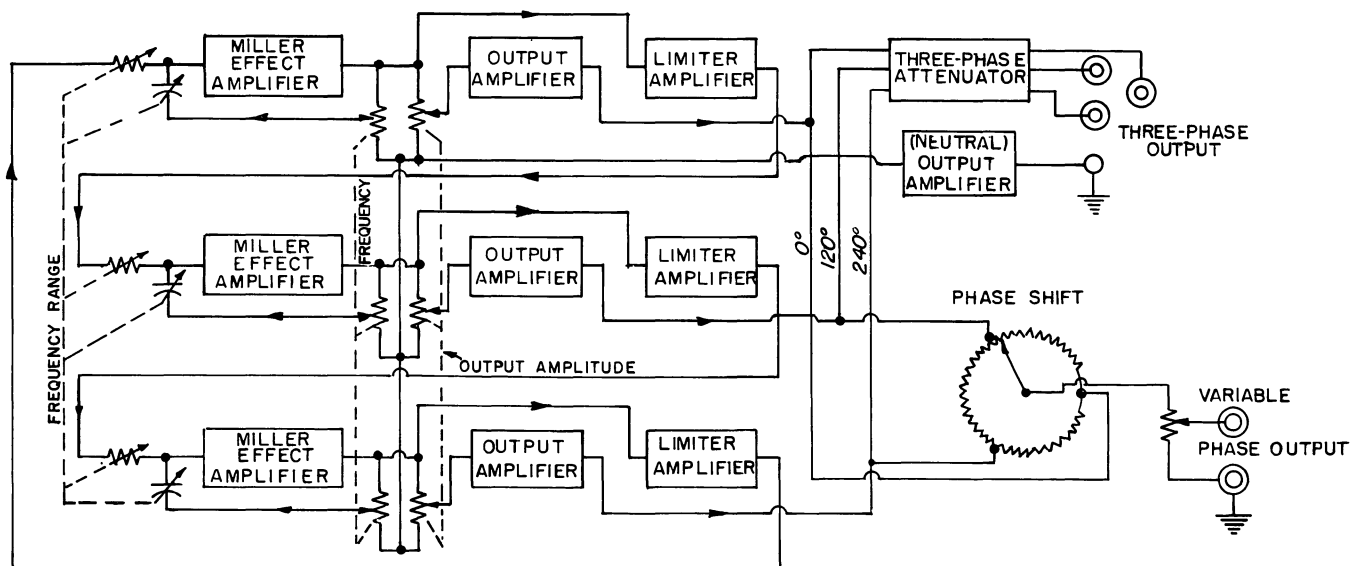

Figure 3. Functional Block Diagram.
4.2 FUNCTIONAL BLOCK DIAGRAM. In the functional block diagram, Figure 3, the three phases (the amplifier stages of paragraph 4.1) are shown at the left. Each identical phase consists of a "Miller effect"¹ amplifier, in which all voltage amplification is concentrated. The output of each amplifier divides into three circuits: